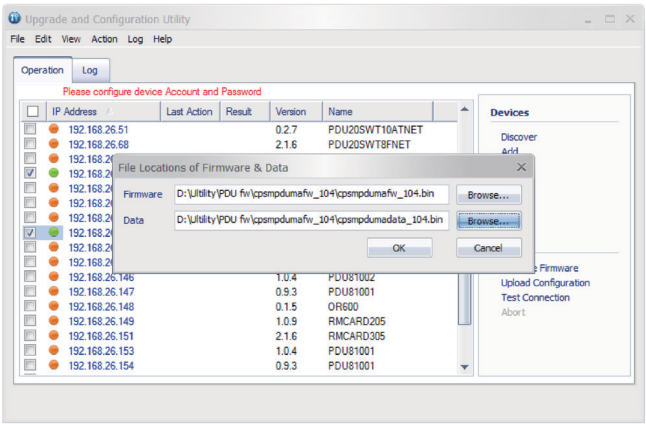

Figure 4
- Click Browse to locate and select the firmware and data file to be updated (Shown in Figure 4).